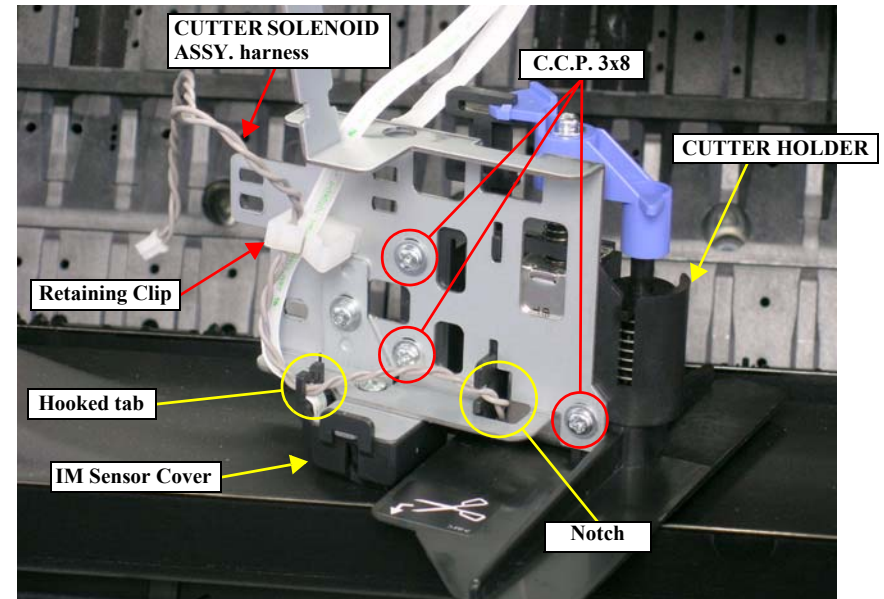

Figure 4-70. Removing the CUTTER HOLDER
6. Release the harness of the CUTTER SOLENOID ASSY. from the retaining clip and the hooked tab of the IM Sensor Cover. *See Figure 4-70.*
7. Remove the three screws that secure the CUTTER HOLDER. *See Figure 4-70.*
8. Pull out the harness of the CUTTER SOLENOID ASSY. through the notch of the CUTTER HOLDER BRACKET, and remove the CUTTER HOLDER. *See Figure 4-70.*